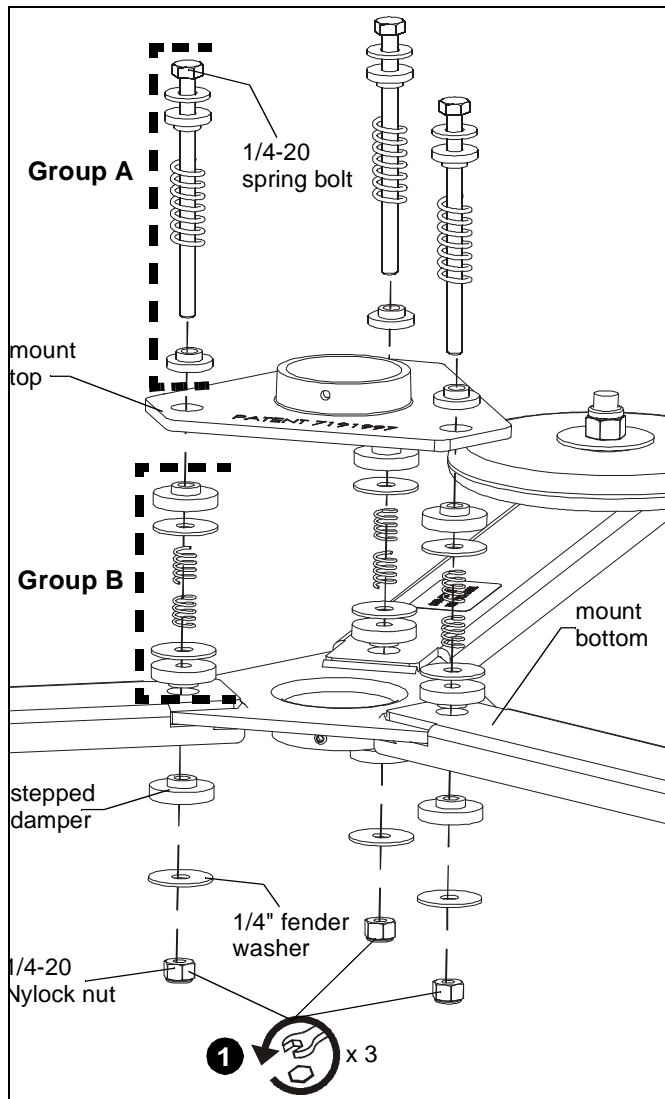

Figure 4
1. Remove and **SAVE** 1/4-20 Nylock nut, 1/4" fender washer, and stepped sorbothane damper located underneath mount arm. (See Figure 4)
2. Remove Group A hardware (and **SAVE** 1/4-20 spring bolt) by sliding 1/4-20 spring bolt upward. (See Figure 4)
NOTE: Make certain Group B hardware stays in place when removing 1/4-20 spring bolt and associated hardware. (See Figure 4)